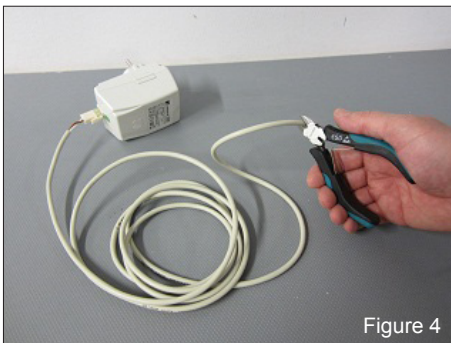

Figure 4
5. Power supply cable: Measure the length of the cable between the wall outlet and the alarm unit. The lead between the unit and the connector must not be taut so that there is a little extra cable available. Cut, see Figure 4.